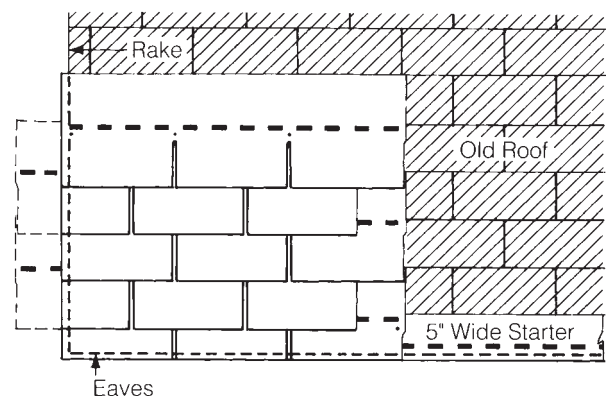

Figure 10-22: Vertical Racking, Nested.
- Cut 6" off one side of the first starter shingle and install the 30" piece over the first course of the old shingles, at the lower left corner. This, and all other shingles, must nest with the butt edges of the old shingles (Figure 10-22).
- Align the top edge of the 10" strips so they butt up (nest) against the tabs of the shingles in the old third course (Figure 10-22).
- Cut 6" off the left end of a full shingle. Nest the top edge of this new 12" by 30" piece of shingle up against the bottom edge of the shingles in the old fourth course (Figure 10-22).
- Begin the application of succeeding courses by alternating the use of full shingles and 30" shingles (6" off the left end) up the rake in a single column (Figure 10-22).